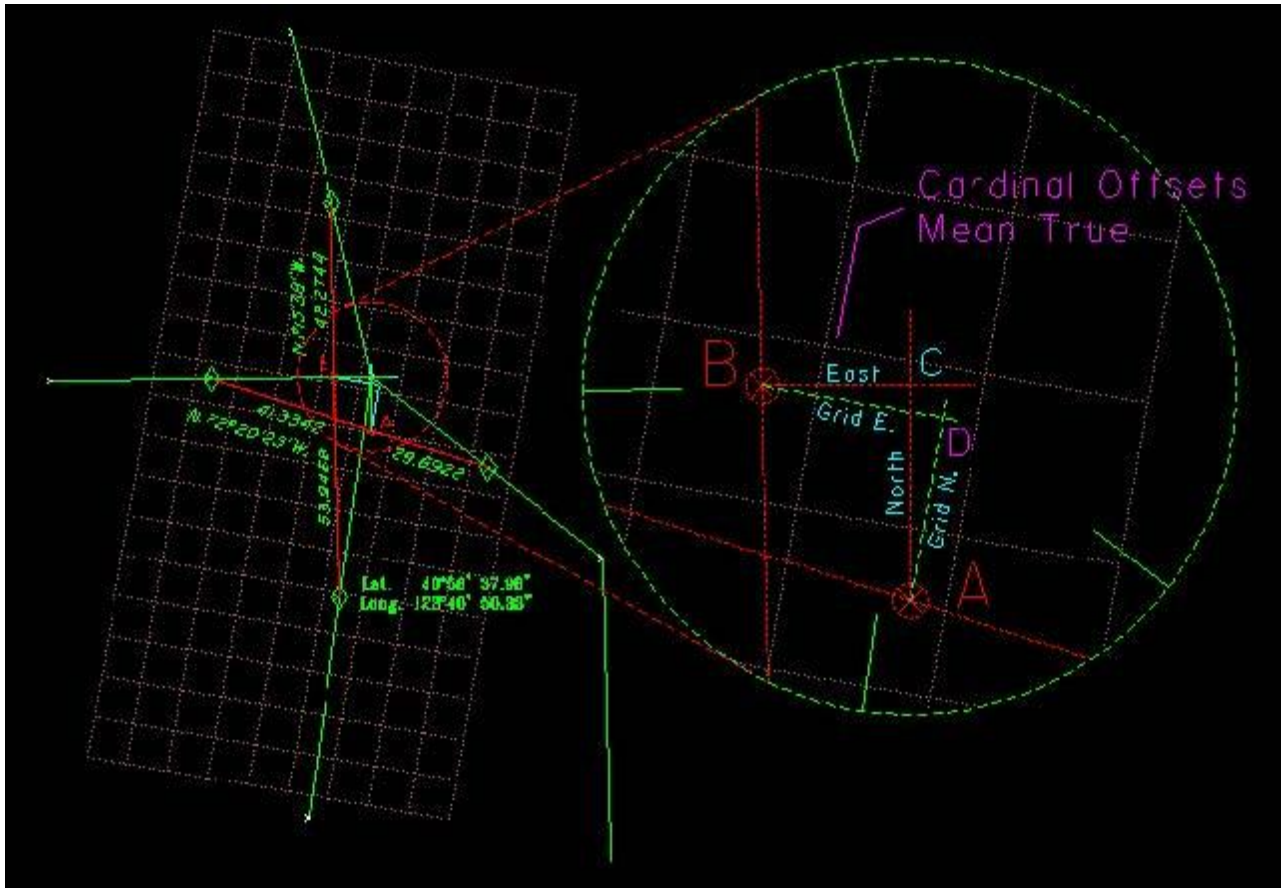

Figure 3 -Cardinal Offsets True vs Grid
- 1 A single proportion using the record E-W cardinal equivalents between the control E and W. In the Figure 3 example this would be point 'A'.
- 2 A single proportion using the record N-S cardinal equivalents between the control N and S. In the Figure 3 example this would be point 'B'.
This last requirement can be a problem if you are not careful using coordinates, since to make the offsets cardinal requires knowledge of and proper correction to true north at those points. The common process of using the East coordinate of the E-W proportion and the North coordinate of the N-S proportion is equivalent to making a GRID offset, exaggerated in Figure 3 as point 'D', which can be incorrect.